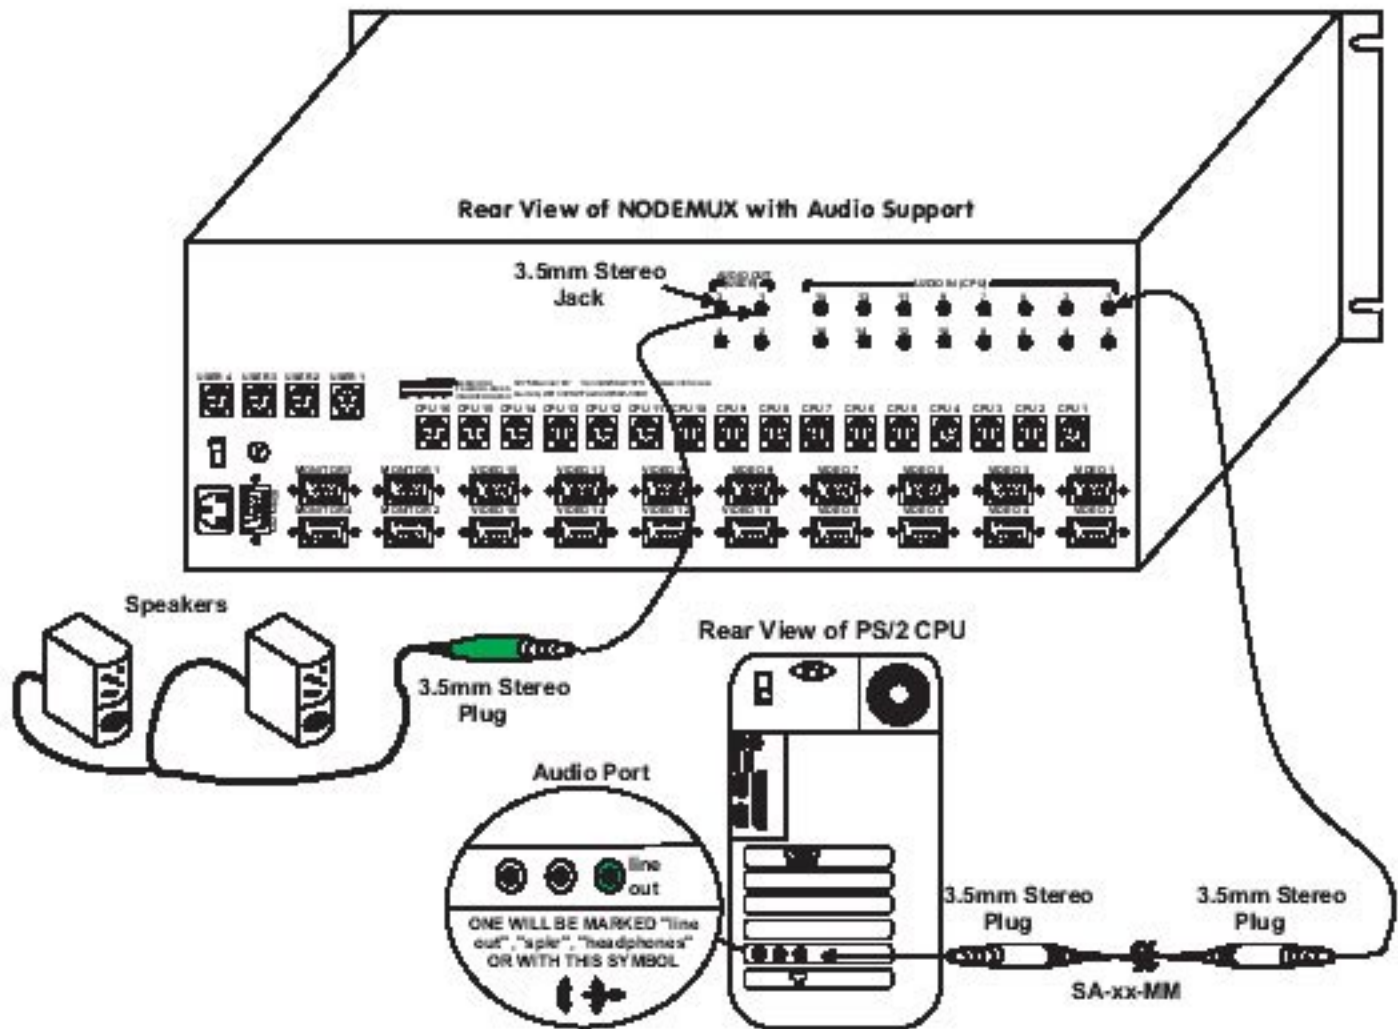

Figure 4- Connect speakers and audio cables from CPUs to audio jacks
FYI: If it is desired for only a monitor to be connected to a set of user ports, an NTI keyboard cable (VKTINT-1 for example) must also be connected to the keyboard port for that user. (The other end of the VKTINT-1 does not need to be connected to anything.) This is required in order to enable the user of that port to switch between CPU ports on the NTI Universal KVM switch. (See Fig. 4 on page 8 "Video-Only User".)
5. For units with audio support (optional) : Connect the 3.5mm plug from each set of speakers to the 3.5mm jacks labeled "AUDIO OUT" (numbered corresponding to the users that will receive the audio from connected CPUs). Attach SA-xx-MM audio cables (purchased separately) between the audio port on each CPU and the 3.5mm audio jacks marked "AUDIO IN" on the NODEMUX switch. Be sure to connect the audio cables from each CPU to audio jacks of the same number as the keyboard, mouse, and video cable ports connected to. See Fig. 4.